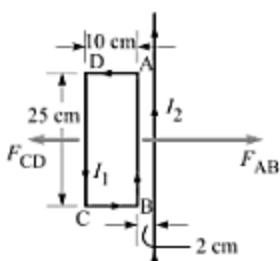

Fig. 5.18
**Solution** The placement of the rectangular loop near the long straight current-carrying conductor is shown in Fig. 5.18. Parts AD and BC do not experience any force, since these conductors are at right angles to the long straight conductor. The current  $I_1$  in AB and the current  $I_2$  in straight conductor are in the same direction. Hence, the force  $F_{AB}$  is attractive, and by using Eq. 5.10 its magnitude can be calculated as follows.